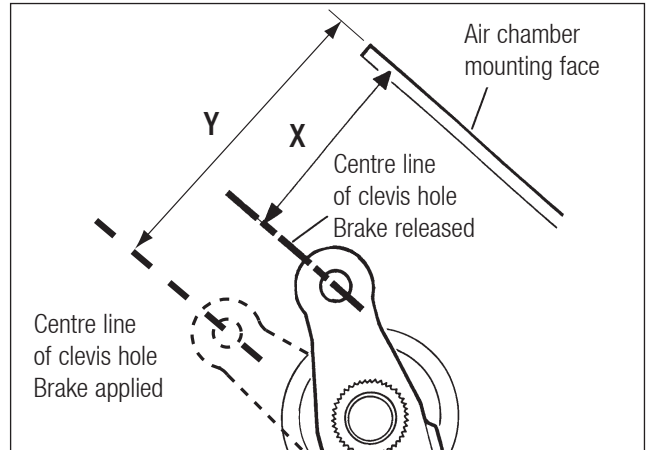

Fig. 2.1
Measure the dimension from the centre of the lever clevis hole to the air chamber mounting face on the mounting bracket (Fig 2.1), record the measurement (X). Ensure that it conforms to the dimension specified by the vehicle manufacturer.
Actuate the brake and measure the dimension from the centre of the lever clevis hole to the air chamber mounting face on the mounting bracket again (Fig 2.1), record the measurement (Y).